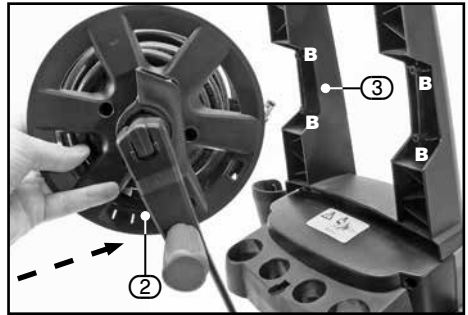

FIG.9
8.5 ATTACHING THE INTEGRATED HOSE REEL (98677 only) – FIGS.9 – 10
- Position the hose reel section (15) within the cut out recessed area of the handle section (3).
- Locate the 4 supplied screws (22) with the mounting point holes (B) and screw in to secure the hose reel to the handle.